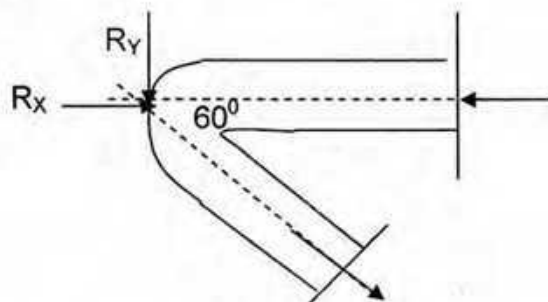

Figure 6
- b. Water enters in a 120° horizontal reducing pipe with a velocity of 5 m/sec and a pressure of 80 kN/m^2 as shown in Figure 6. If the diameters at the entrance and exit sections are 25 cm and 15 cm respectively, calculate the components of the reaction e.g. R_x and R_y acting on the pipe. 16